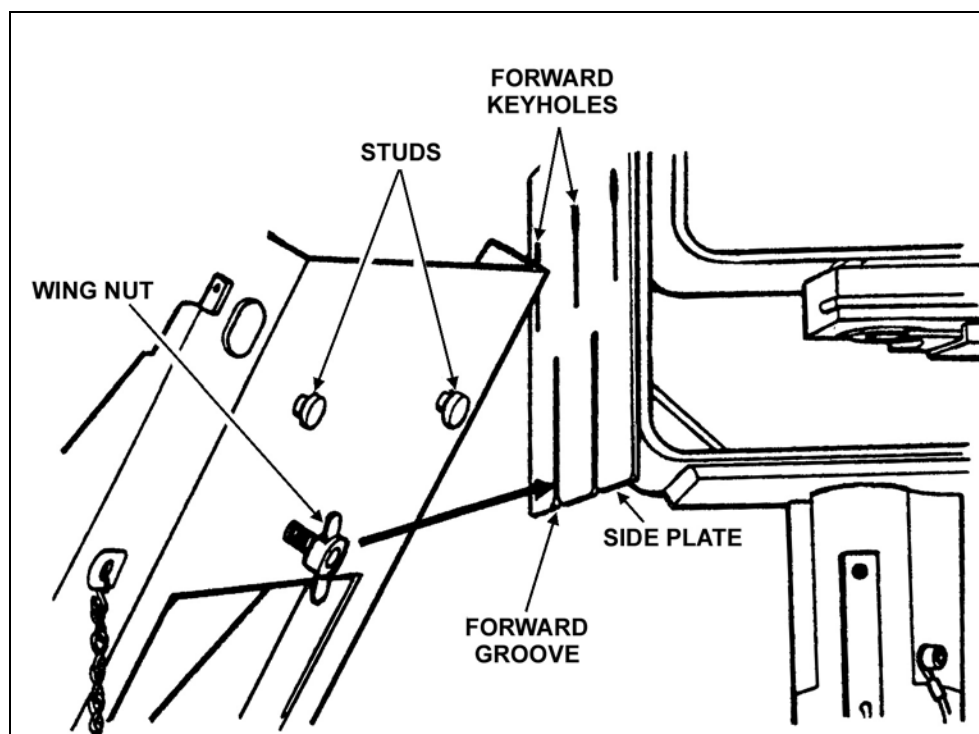

Figure 3-24. Attachment of bracket mounting assembly.
(1) Partly unscrew the wing nut on the threaded stud of the bracket mounting assembly. Align the stud with the forward groove in the gun cradle's side plate. Push the bracket mounting assembly up until the heads of the two mounting pins align with the two forward keyholes. Push the heads of the two mounting pins into the keyholes and allow the bracket mounting assembly to slide down. Tighten the wing nut behind the side plate of the cradle (Figure 3-24).